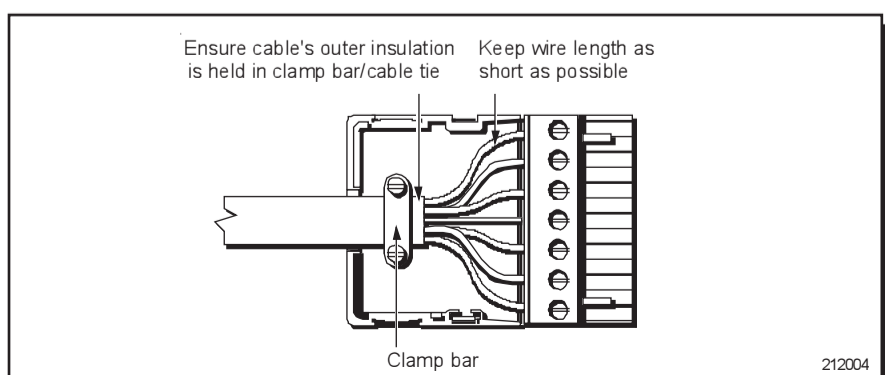

Fig. 4 Correct cable connector wiring arrangement
- Wire up the connector, remembering the correct orientation of the plug. Refer to Fig. 4